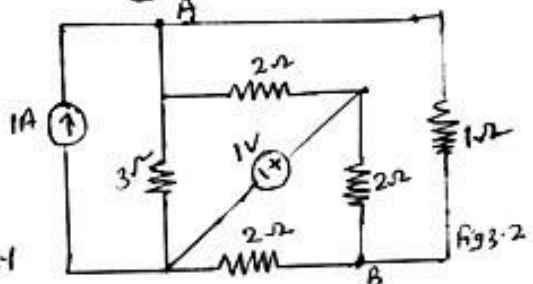

Fig 3.2
3. Determine the current in 1Ω resistor across AB of the network shown in fig 3.2 using superposition theorem.